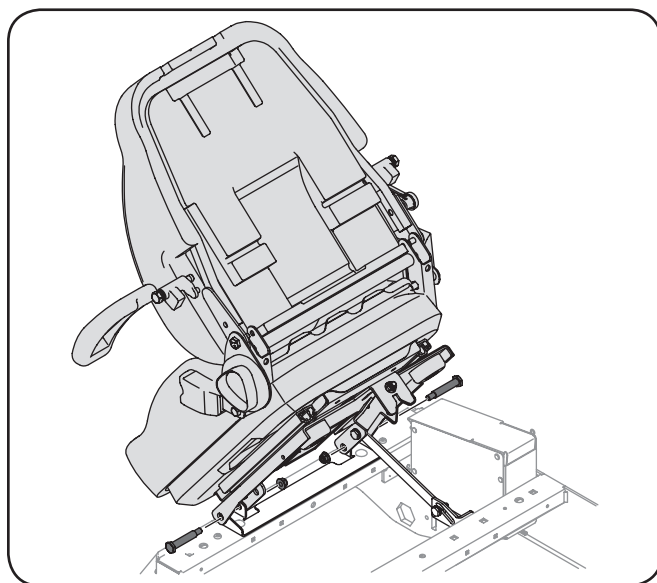

Figure 3-10
1. Remove the two flange lock nuts and shoulder bolts from the manual bag. See Figure 3-10.
2. Place the seat into position and secure the seat into place with the hardware as shown in Figure 3-10.